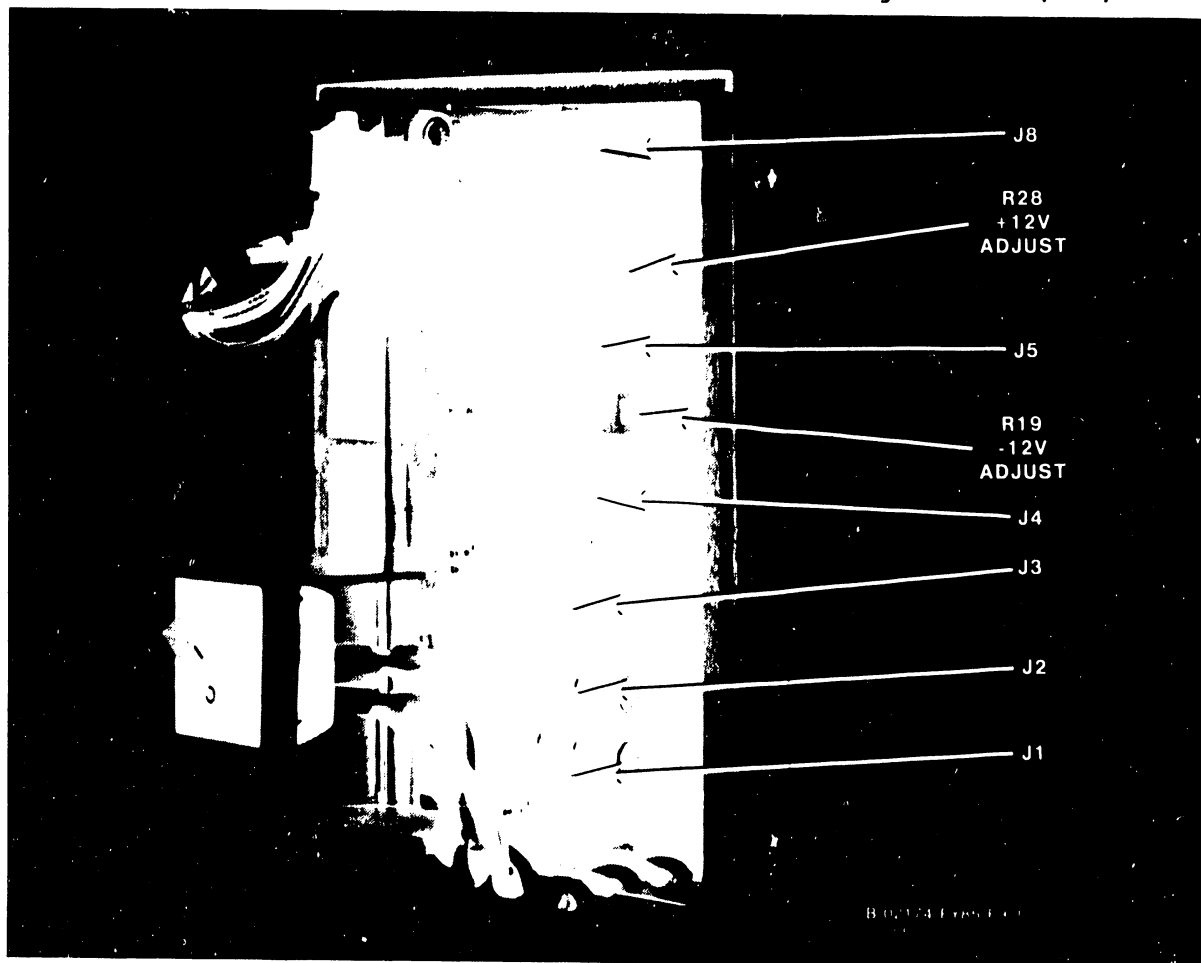

Figure 5-35. Switching Power Supply (Right Side View)
12. Connect the signal, power, and ground cables to the front of the drive. (The dc power cable goes to the 9-pin connector J4 on the Switching Power Supply. See figures 5-35, 5-37, and 5-43.)
drive. (The dc power cable goes to the 9-pin connector J4 on the Switching Power Supply. See figures 5-35, 5-38, and 5-46.)